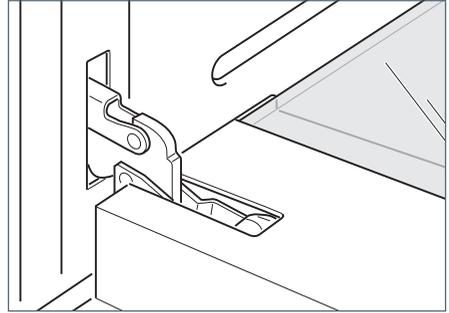

Fig.63a
- 1 Open the door to its full extent (Fig. 63a).